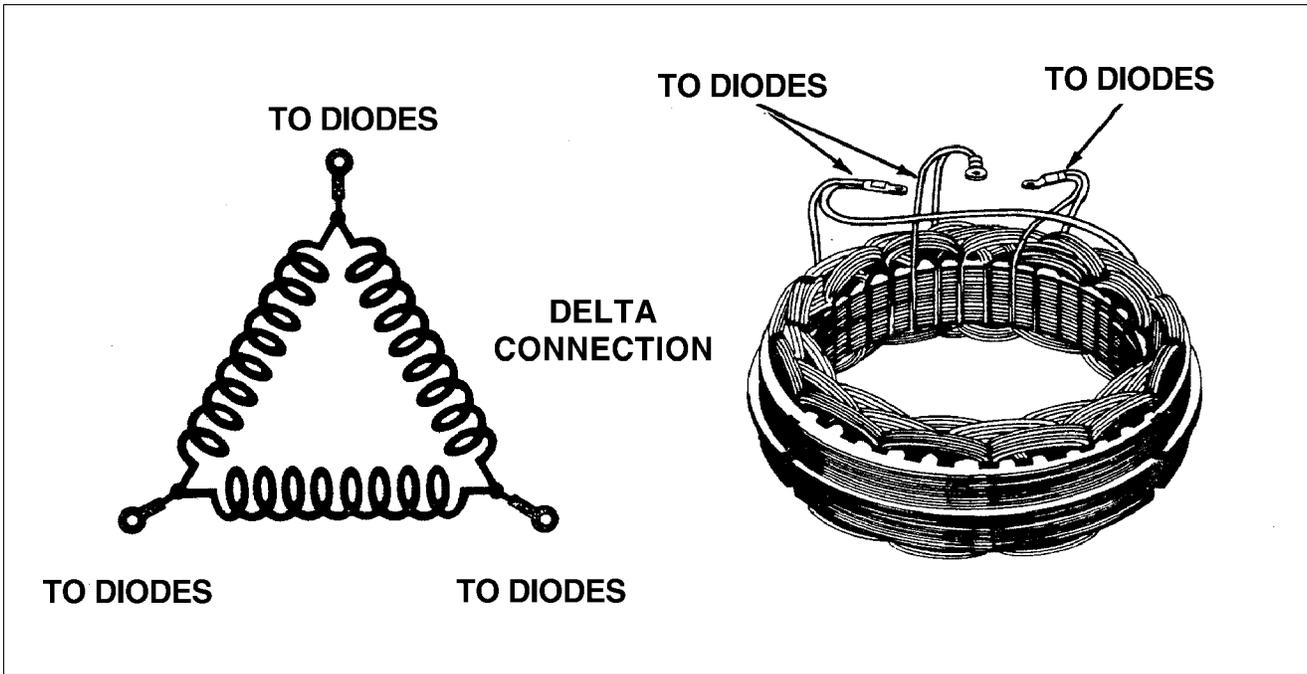
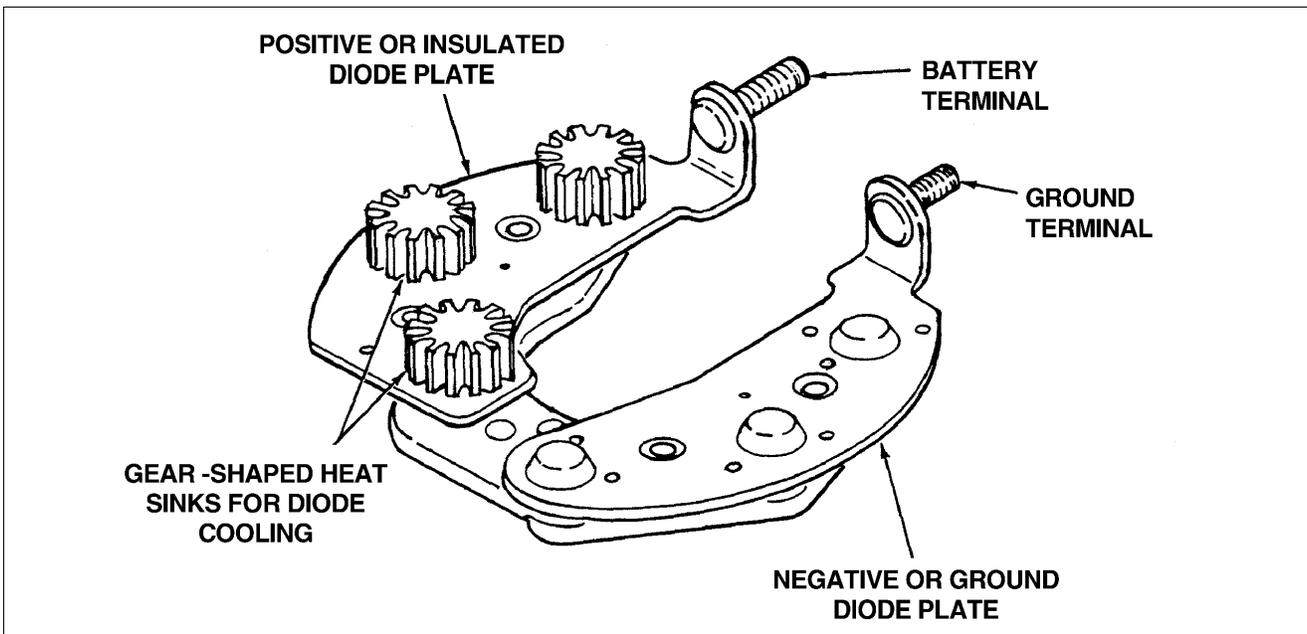

Figure 24-3. Stator Core and Windings
Figure 24-4. Rectifier Assembly
- c. The stator core and coil assembly (3) consists of a number of steel stampings riveted together to form the stator core which contains 36 equally spaced vertical slots to accommodate the stator coil windings. (Refer to Figure 24-3.)
- d. The rotor core and coil assembly (4) consists of the rotor shaft, two slip rings, two rotor halves and the coil assembly. The shaft is supported at each end by bearings. The front bearing (ball-type) is a slip fit on the shaft and is retained in the front housing with a retainer. The rear bearing (needle-type) is pressed into the rear housing. The slip rings, core and coil assembly are press-fitted to the shaft with a rotor half enveloping each end of the coil. The rotor core and coil assembly turns inside the stator core and coil assembly with a very narrow air gap between the two assemblies, thus developing maximum magneto induction.
- e. The brush and holder assembly (5) is installed in a cavity inside the rear housing. The brushes ride the surfaces of the slip rings on the rotor shaft under spring pressure and transmit field current through their circuit to ground. One brush or field terminal is, therefore, insulated from the housing.
- f. The rectifier assembly is located between the stator and the inside surface of the rear housing. Attachment to the housing is made by means of mounting studs that protrude from the positive and negative diode plates (heat sinks). The positive plate is insulated from the housing, and the negative plate is grounded to the housing through the studs. The rectifier assembly has a printed circuit board spaced away from the heat sinks. (Refer to Figure 24-4.)